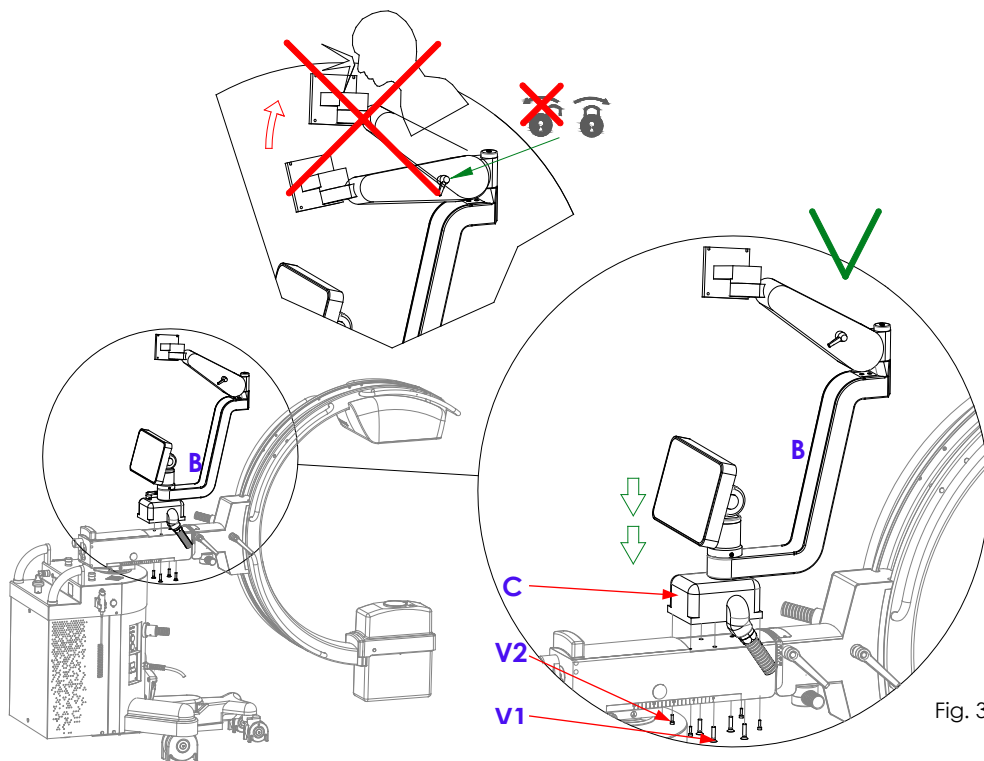

Fig. 3
- Assemble the monitor support arm (**B**) and fix it by tightening the 4 screws (**V1**); fix the covers with the 4 screws (**V2**). See Fig.3.
- Mount the monitor support/handle (**S**) to the monitor (**M**), inserting in between the spacer (**D**) and tightening only the 2 screws (**V3**) letting them stick out temporarily some 5/6 mm – fig.3/ fig.4 /fig.5.